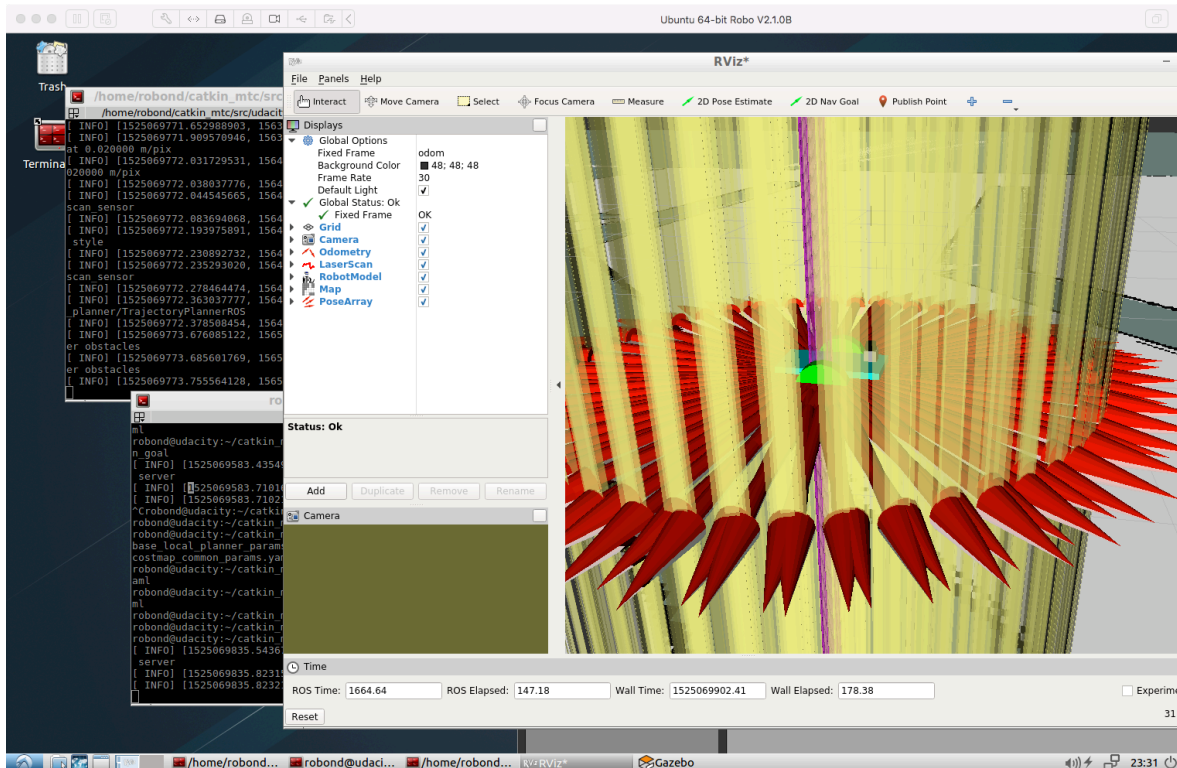

Fig. 6 RViz Rendering problem on VM
**Discussion:** To run AMCL and navigation stack take quite a lot computation power as well as rendering on Gazebo and RViz. When I was working on Ubuntu VM (VMWare) on Mac, I got bogus screen like Fig. 6. After installing Ubuntu 16 with ROS packages in a PC, things went back to normal.